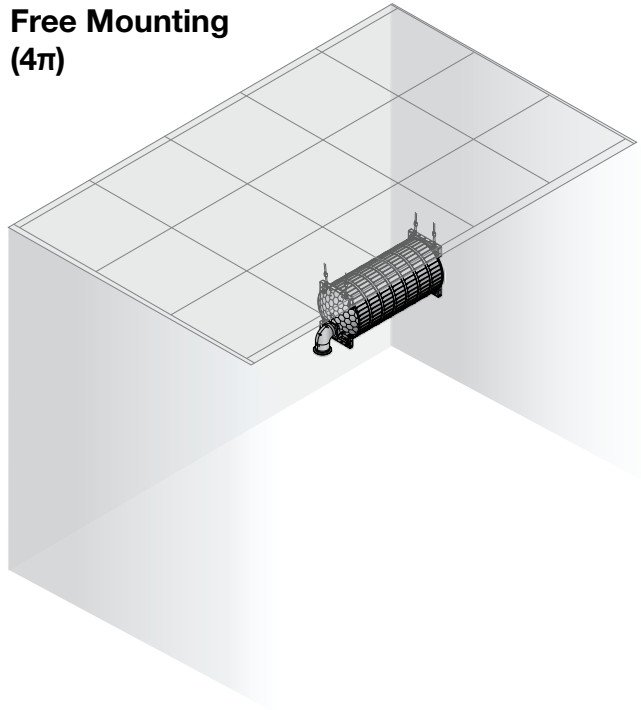

Figure 2. Mounting Locations for Discussion of Acoustical Reinforcement
Depending on where you mount the subwoofer, such as next to a large, rigid planar surface, you can achieve some level of acoustical reinforcement (see figure 2).
- **Corner mounting** (see figure 2 on the previous page) — The subwoofer is mounted in a corner of a surface where three surfaces meet, giving reinforcement from all three surfaces. This option provides the most reinforcement. The port tube should be as close to the corner as possible for best results.
- **Edge mounting** (see figure 2) — The subwoofer is mounted at the edge of a surface where two surfaces meet, giving reinforcement from both surfaces. This option is as much as 6 dB less sensitive than corner mounting. The port should be as close to the wall as possible for best results.
- **Ceiling, wall, or floor mounting** (see figure 2) — The subwoofer is mounted in or on a surface in an area away from any other surface. This option is as much as 12 dB less sensitive than corner mounting. There is reinforcement from only one surface.
- **Free mounting** (see figure 2) — The subwoofer is mounted away from all walls, the floor and the ceiling. This option is as much as 18 dB less sensitive than corner mounting. There is no reinforcement from any surface.